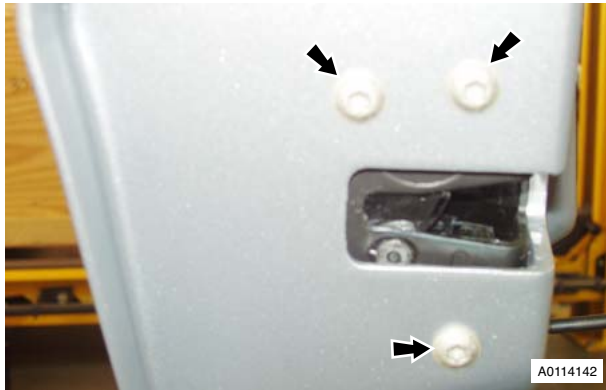

Figure 1
- Remove bolts (x3) securing door latch (see Figure 1).